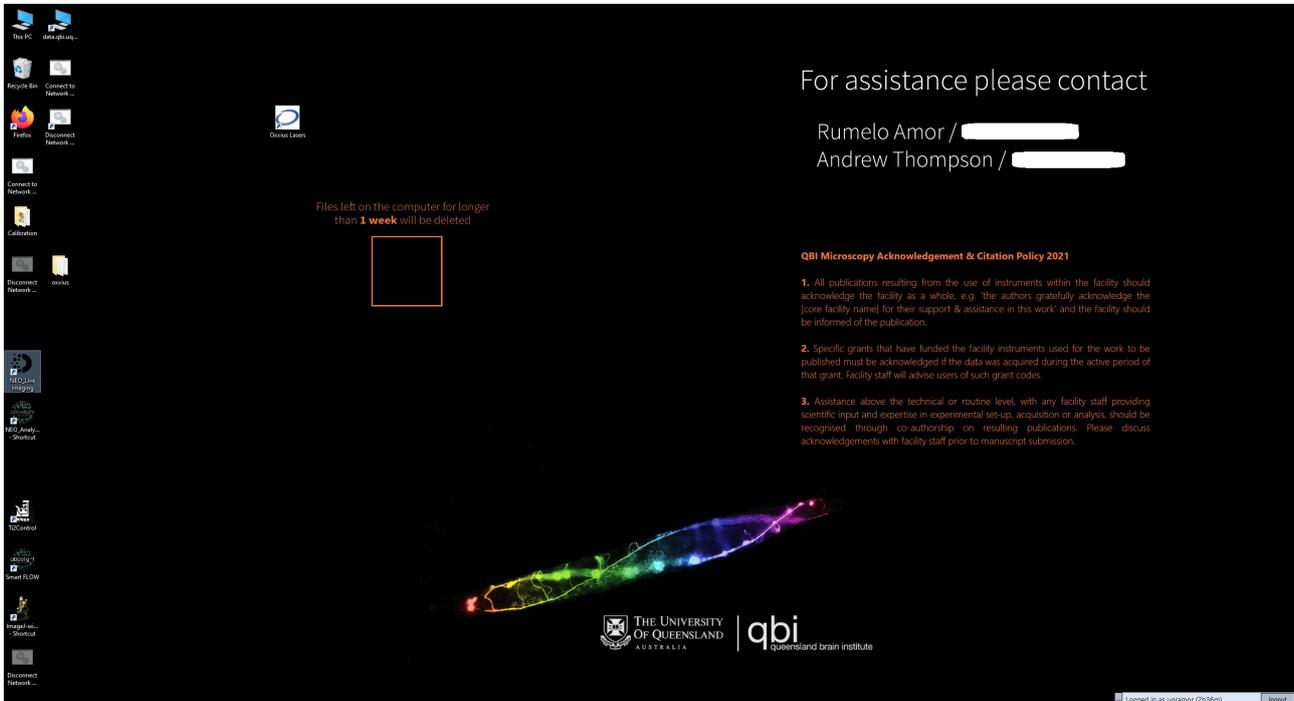

Figure 6: Desktop with NEO Live Imaging shortcut highlighted.
2. Start NEO Live Imaging by double-clicking on its shortcut icon on the desktop (Fig. 6).